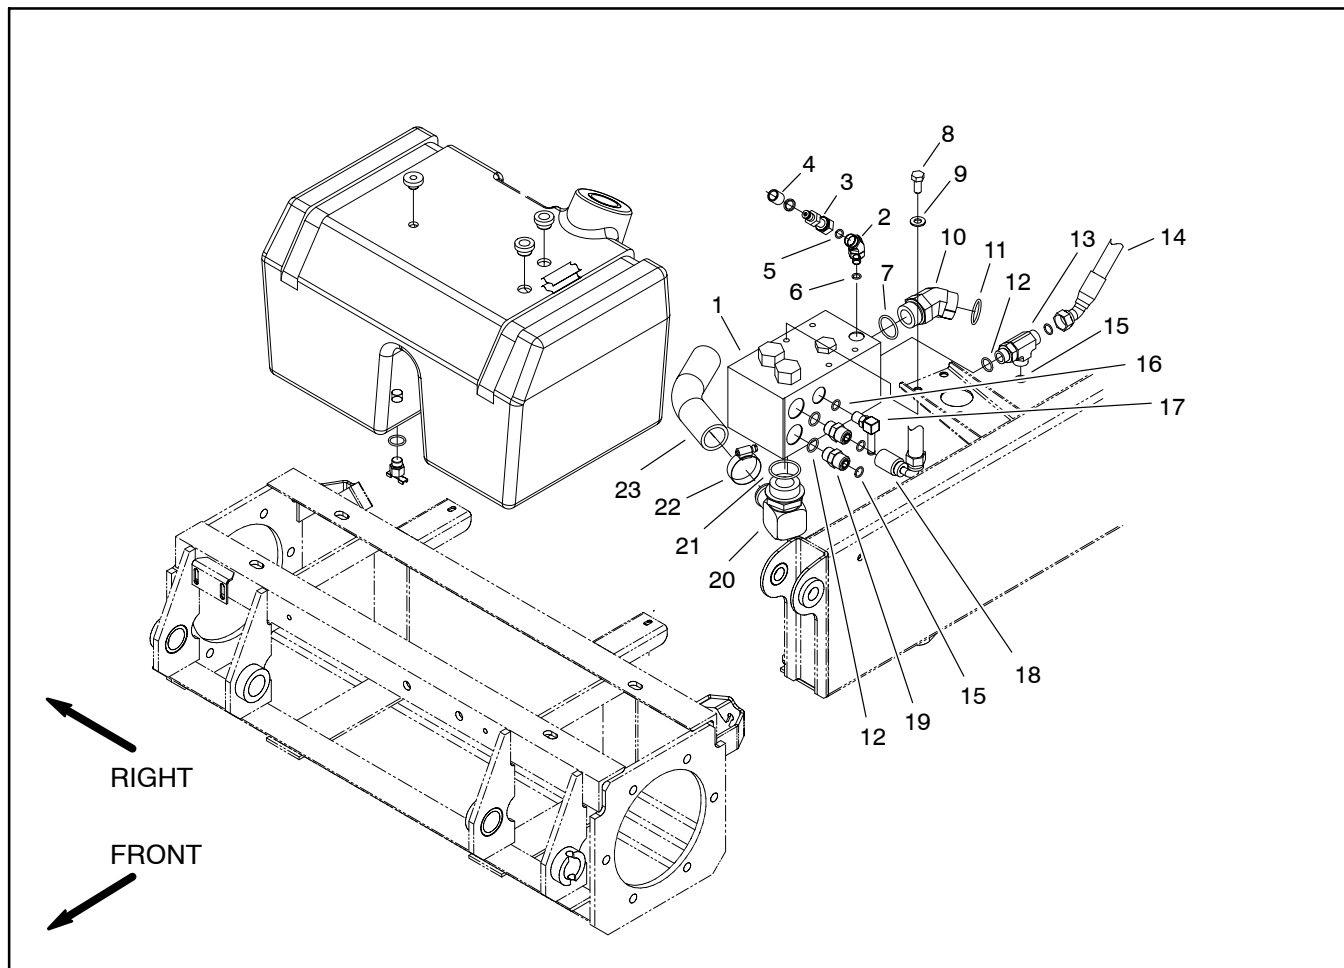

Figure 54
Removal (Fig. 54)
3. Remove hydraulic manifold from the frame using Figure 54 as guide.
Installation (Fig. 54)
1. Install hydraulic manifold to the frame using Figure 54 as guide.